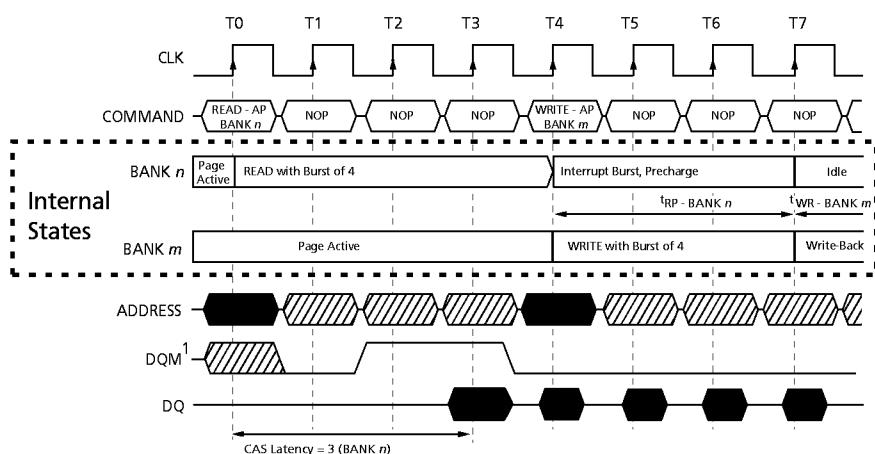

Figure 25
2. Interrupted by a WRITE (with or without auto precharge): A WRITE to bank m will interrupt a READ on bank n when registered. DQM should be used two clocks prior to the WRITE command to prevent bus contention. The PRECHARGE to bank n will begin when the WRITE to bank m is registered (Figure 25).